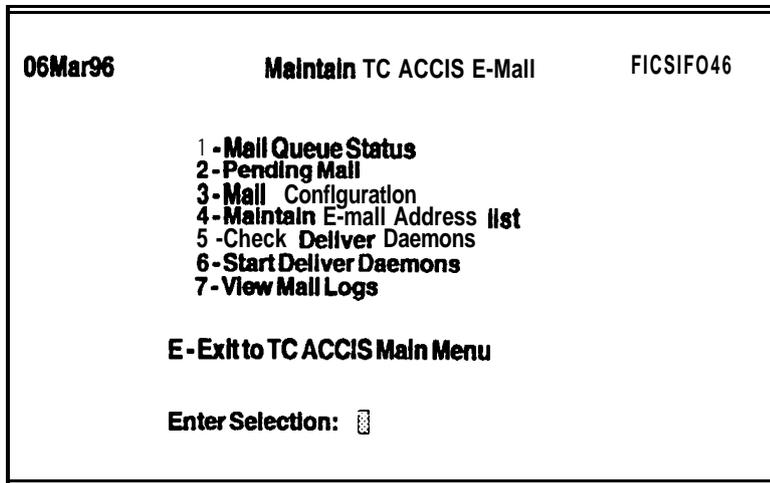

Figure 7-3. Maintain TC ACCIS E-Mail
4. Select **Maintain TC ACCIS E-Mail**. The Maintain TC ACCIS E-Mail Menu is displayed (see Figure 7-3) with the following options: